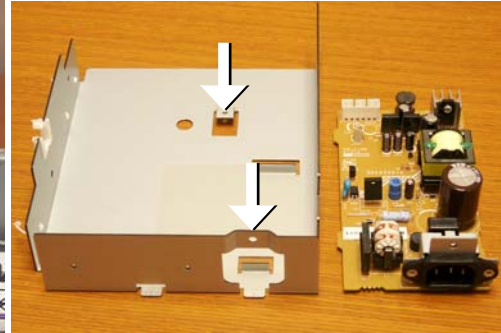

Figure 5-64 Removing Power Supply PCB
8. To remove board from shield, remove two screws as shown in Figure 5-64 above.